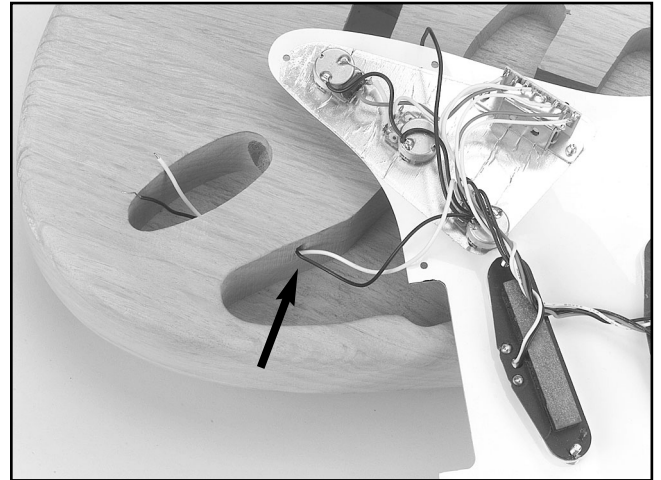

Figure 15. Pick guard wires.
- Push one white and one black wire through the hole shown in **Figure 15**.